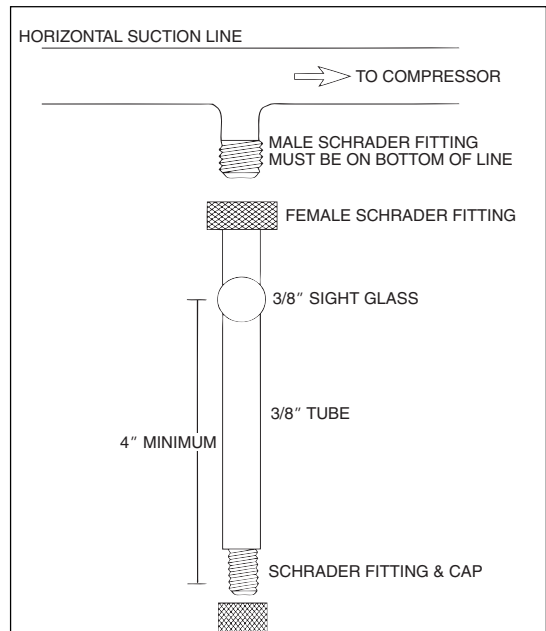

Figure 1
11. After the system has been in operation for 48 hours, check the condition of the oil with the Emerson Acid Alert test kit. IF the oil test indicates an acid condition, replace both the liquid and suction line filter-drier. See fig. 1.